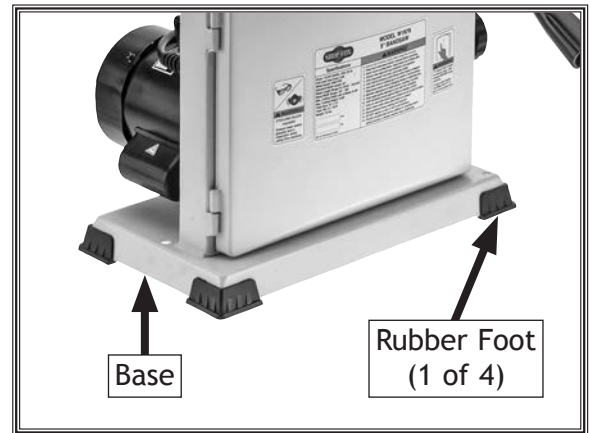

Figure 18. Rubber feet installed.
13. Install (4) rubber feet (see **Figure 18**) at corners of base.